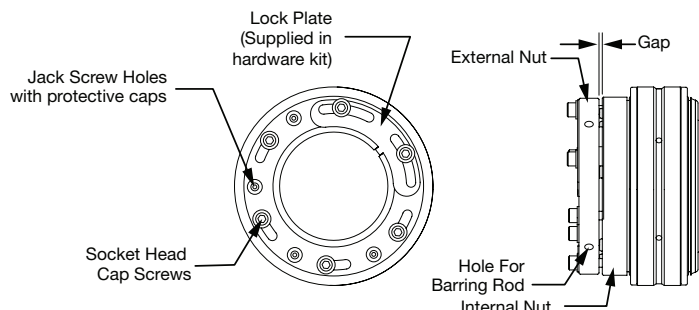

Figure 1. Bearing with dual nut as shipped with gap (lock plate is shipped in a separate hardware package).
The locknut assembly is comprised of an external nut and internal nut. The bearing is shipped such that there is a gap between the two nuts. The two nuts must maintain this gap prior to mounting the bearing. The dual nut configuration prior to installation is shown in Figure 1. Note the position of the external nut slots relative to the socket head cap screws.
7. Remove two socket head cap screws nearest to the slot in the adapter. A slight gap may appear between the two nuts when these two socket head cap screws are removed. This is a normal occurrence and the gap will close up when the two socket head cap screws are reinstalled. Remove lock plate from hardware kit and position the lock plate so that it can be installed to fit the adapter slot. If the lock plate does not line up with the two holes, it can be flipped over to fit as shown in Figure 1. Reinstall the two socket head cap screws to secure the lock plate and torque all of the socket head cap screws to the values shown in Table 1. Spare screws and washers are supplied in a hardware kit in case one is lost.
3. Remove protective caps from jack screw holes shown in Figure 1.